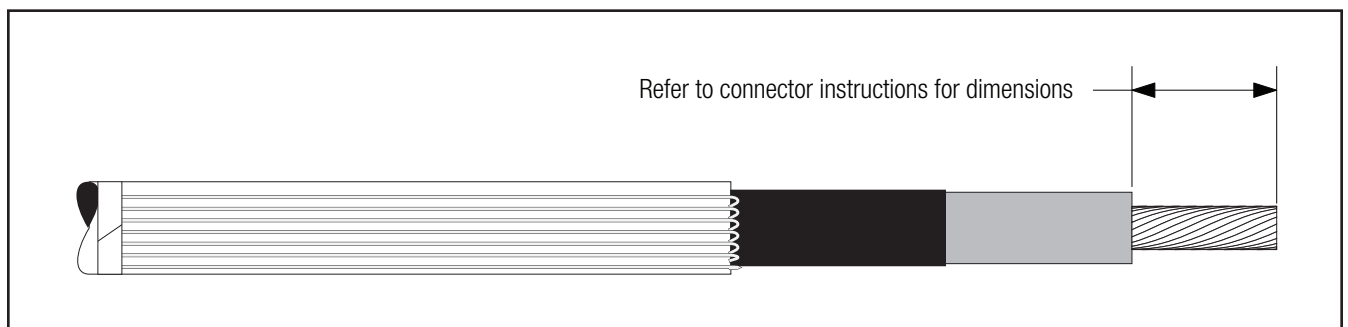

Figure 8
3.1 If using a 3M™ Shearbolt Connector QCI 2-250, refer to the instructions included with the connector for insulation cut-back dimension. Insulation removal length shall not exceed 2 1/2" (64 mm) from conductor end (Figure 8).